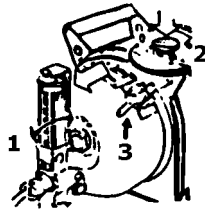

Figure A-2. Starting heater
- a. Install the starting cable by plugging the connector end into the receptacle located on the vehicle/equipment. Plug the cable's other end into the heater handle. Check the current flow by squeezing the handle lever (number 1 at fig A-2) to activate the push button switch. You should hear a distinct humming sound.
- b. Close the fuel regulator by turning the knob counter-clockwise (number 2 at fig A-2).
- c. Move the pump handle (number 3 at fig A-2) forward and backward in a firm and regular manner. After moving it back and forth three or four times, open the fuel regulator
- (b) Open the chamber cover (number 3 at fig A-2) by unscrewing the wing nut.